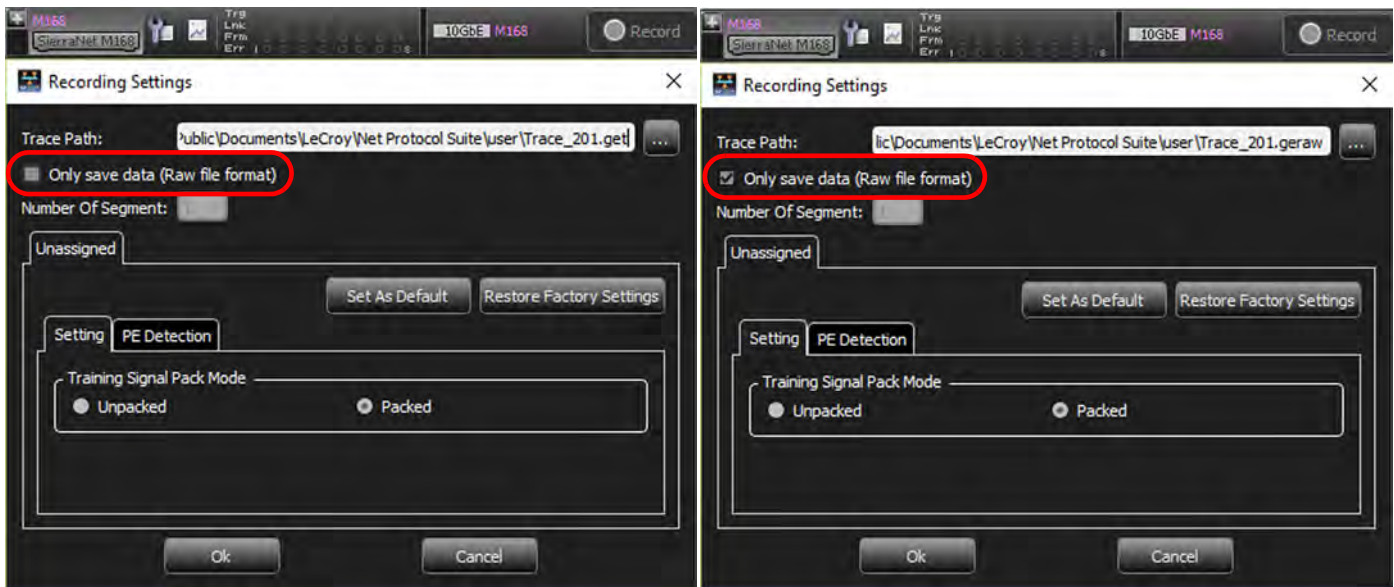

Figure 4.83: Recording Settings Window: M168 – 10GbE
- Raw file format, which generates a **.geraw** file (Figure 4.83)
Click the Recording Settings icon  to display the Recording Settings/PE Detection window. You can save the trace in two different formats: Indexed and Decoded generating a **.get** file or Raw file format generating a **.geraw** file (see Figure 4.83):